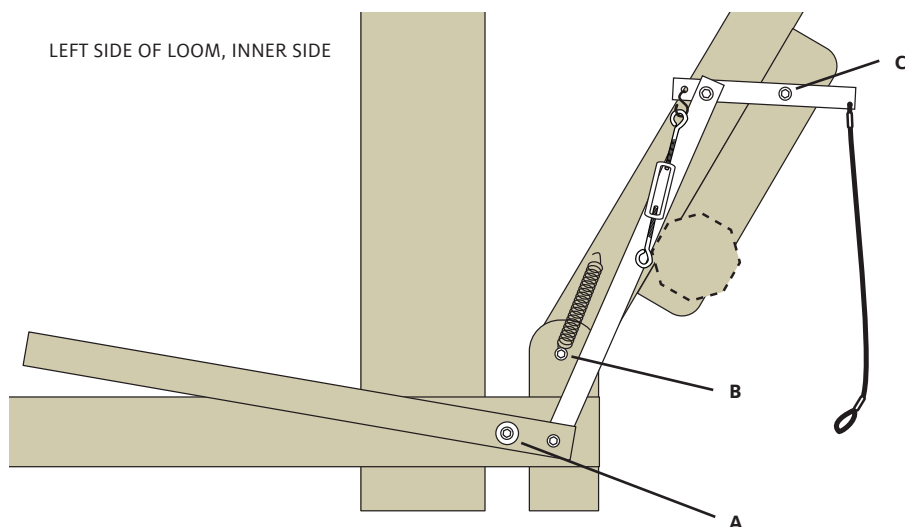

FIGURE 6: INSTALL BRAKE RELEASE PEDAL AND DOUBLE WARP BEAM BRAKE ASSEMBLY
16. Put a 1/4" washer on the carriage bolt at [B] in Figure 6, on the left lower rear leg. Place the bottom loop of the brake spring over the washer, then add another 1/4" washer and a 5/16-18 lock nut. Tighten the lock nut enough to hold